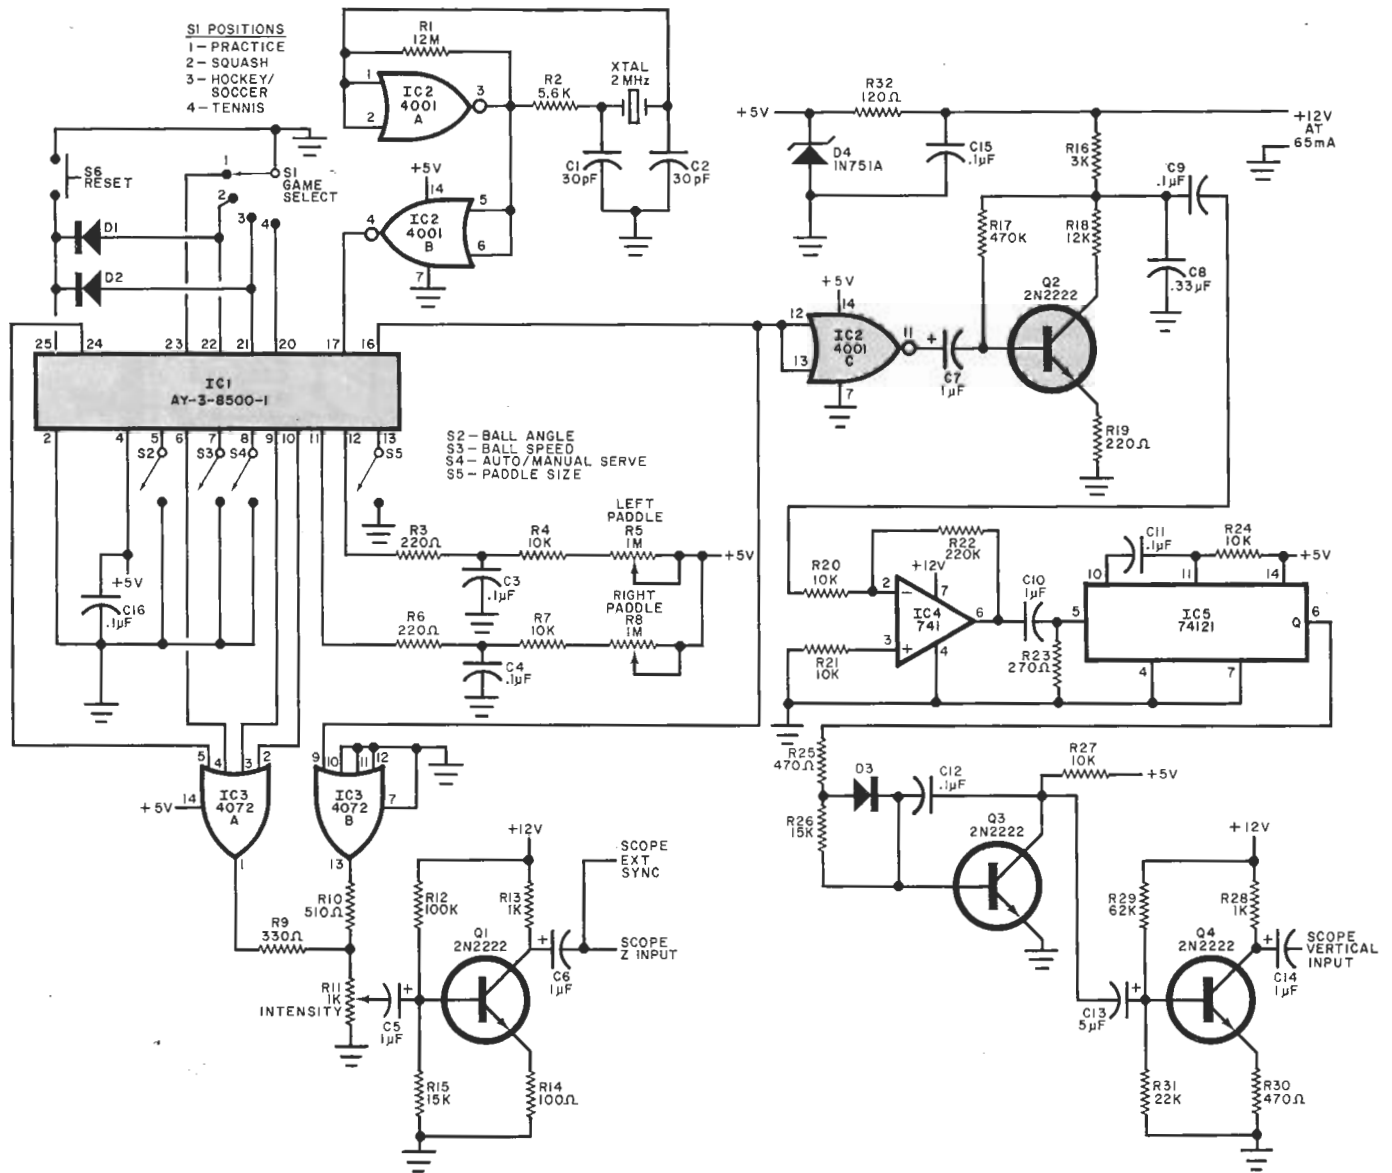

Fig. 1. Adding vertical sweep generator to basic game circuit permits use with conventional oscilloscope.
**About the Circuit.** Sections A and B of IC2 in Fig. 1 are used as a crystal-controlled oscillator circuit to drive
Available Z-axis output potential from the project is approximately 10 volts peak-to-peak. To determine if your scope can use this signal, apply at least +5 volts dc to the Z-axis input while a trace is on the screen. If the trace extinguishes or at least changes considerably in intensity, the circuit shown in Fig. 1 can be used.